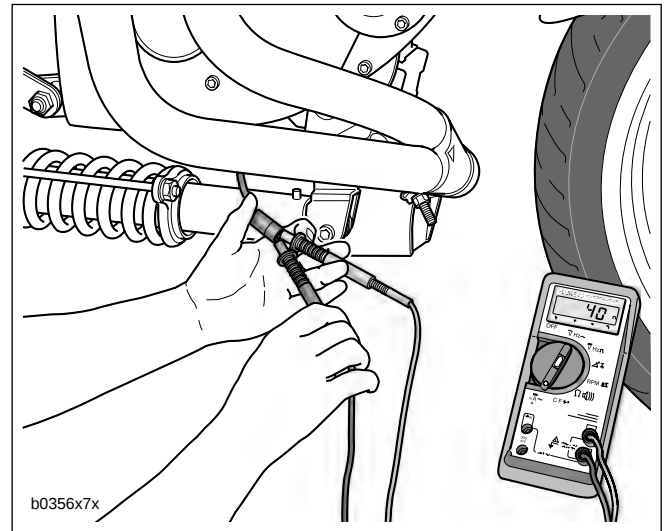

Figure 7-26. Check Stator AC Voltage Output
1. See Figure 7-26. Test AC output.